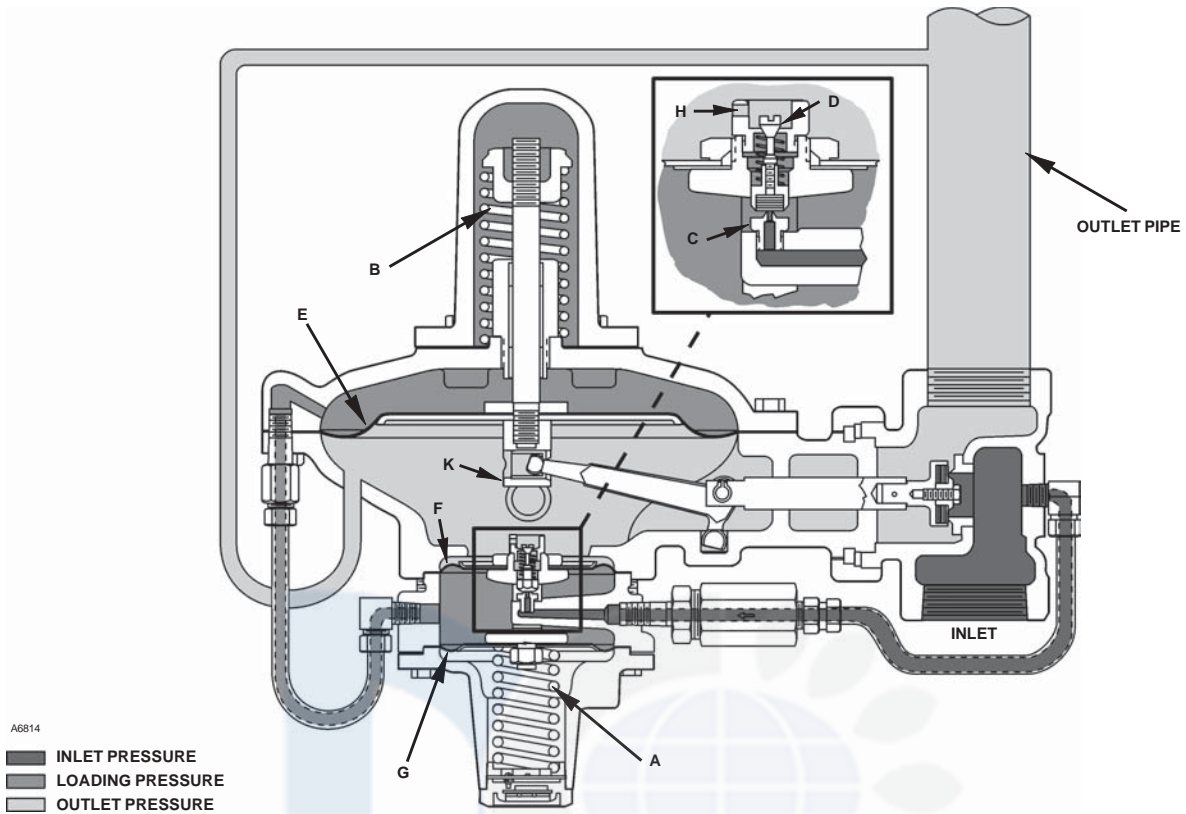
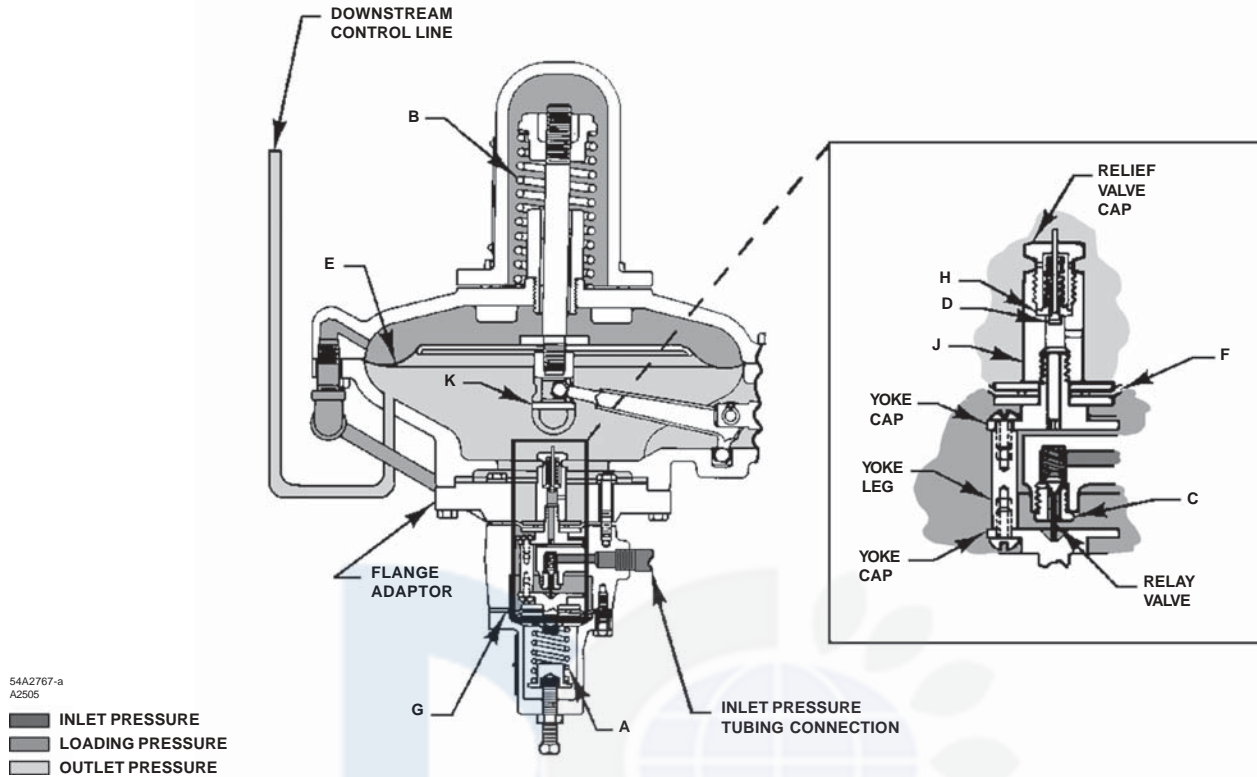
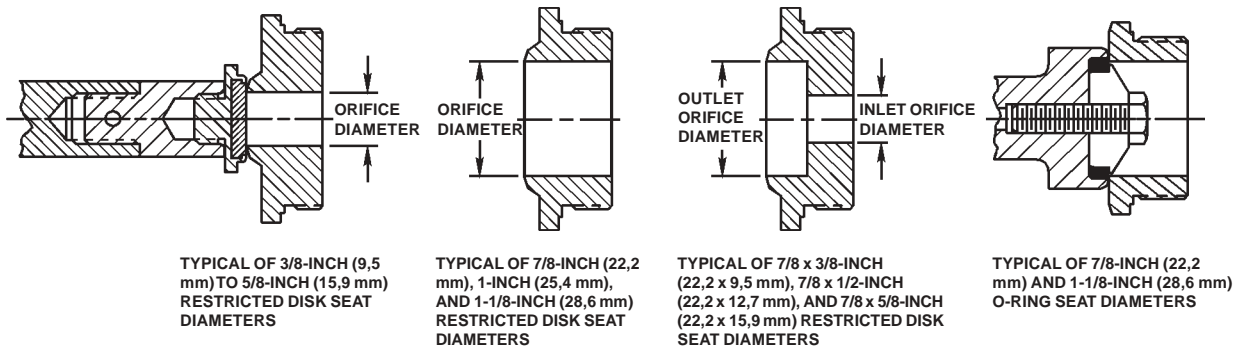

Figure 3. Schematic of Type 99 Regulator with Type 61L (low pressure) Pilot
Figure 4. Schematic of Type 99 Regulator with Type 61HP (extra high pressure) Pilot
Figure 5. Type 99 Orifice Construction
The key to the operation of a Type 99 regulator is the yoked double-diaphragm pilot (letter keys in this section refer to both figure 3 and 4 unless otherwise noted). Fast response and accuracy are made possible by the amplifying effect of the pressure-balanced pilot and by the two-path control system. The function of the pilot is to sense change in the controlled pressure and amplify it into a larger change in the loading pressure. Any changes in outlet pressure act quickly on both the actuator diaphragm and the loading pilot, thus providing the precise pressure control that is characteristic of a two-path system.
Normally, excess loading pressure slowly escapes downstream around bleed valve (D) (figure 3) or through the relief valve body (J) (figure 4). Since loading pressure need exceed outlet pressure only moderately to stroke the main valve fully open, a continued increase in loading pressure differential extends main diaphragm (E) and pusher post assembly (K) far enough to separate bleed valve (D) and bleed orifice (H). This permits quick dumping of excess loading pressure into the downstream system.
The Type 99 regulator body comes with either a composition disk that seats against a knife-edged orifice (figure 3 or 5), or a composition O-ring that seats against a flat orifice (figure 5).